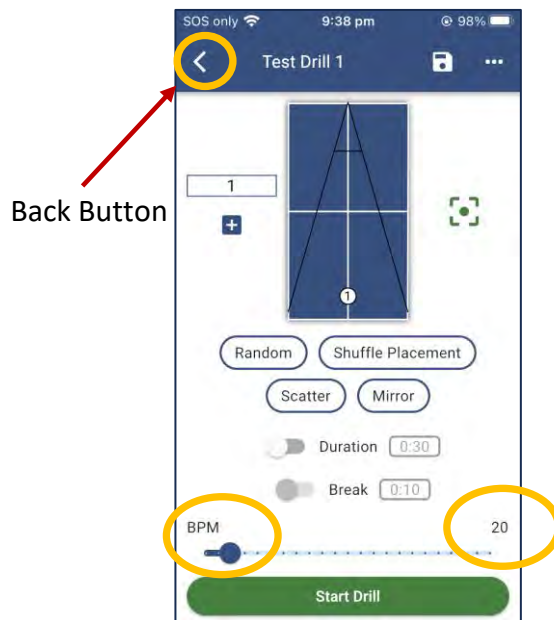

Figure 3-5
3. Move the Balls per Minute (BPM) slider to 20 (Figure 3-5).
1. Return to the list of Drills, by pressing the Back button on the top left of the **Test Drill 1** screen (Figure 3-5).